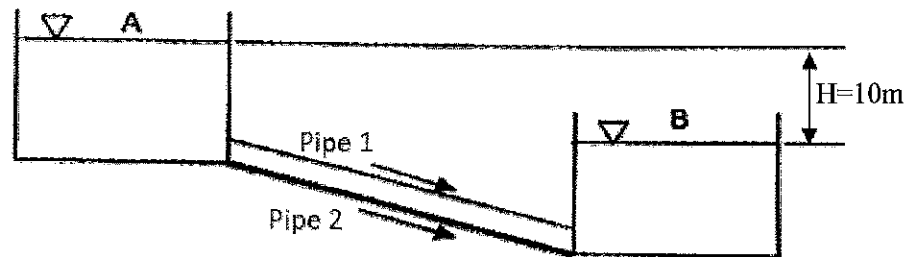

Figure B3(c) / Rajah B3(c)
- (c) Referring to **Figure B3(c)**, two pipes are connected parallel to each other between two reservoirs. The diameter is 50mm for pipe 1 and 100mm for pipe 2 and both pipes have the length of 150m. Calculate the discharge in pipe 1. Given coefficient of friction, $f = 0.008$.